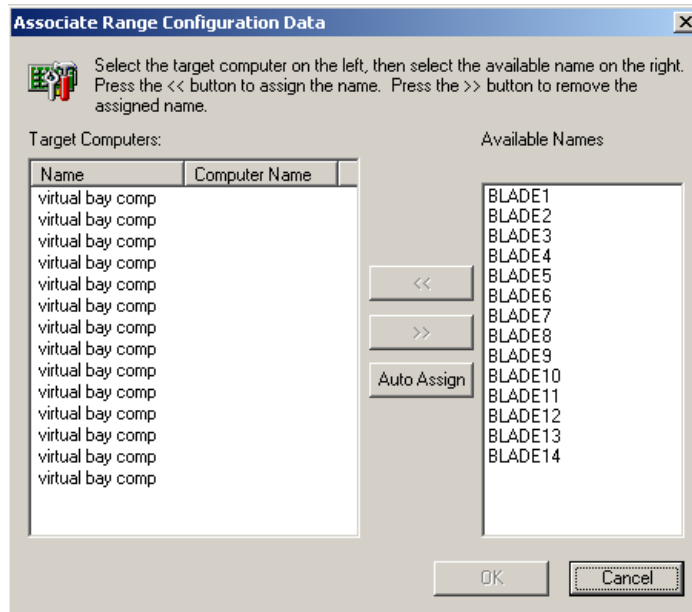

Figure 9-8 The Associate Range Configuration Data window
4. Click **Associate** in the Computer Name Range window to bind the virtual bays with associated names. When the Associate button is clicked, the Associate Range Configuration Data window is shown (Figure 9-8 on page 308).